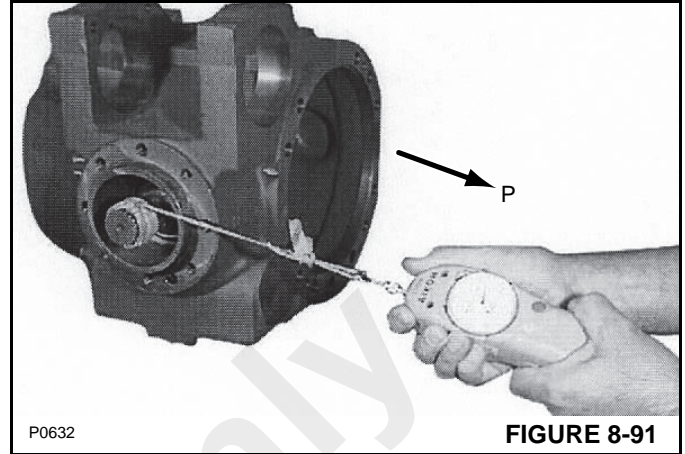

FIGURE 8-91
12. To check the bearing pre-load, use a dynamiter and string. Wind the string around the spline end of SPECIAL TOOL (P/N 1901772) inserted on the pinion shaft (Figure 8-91).